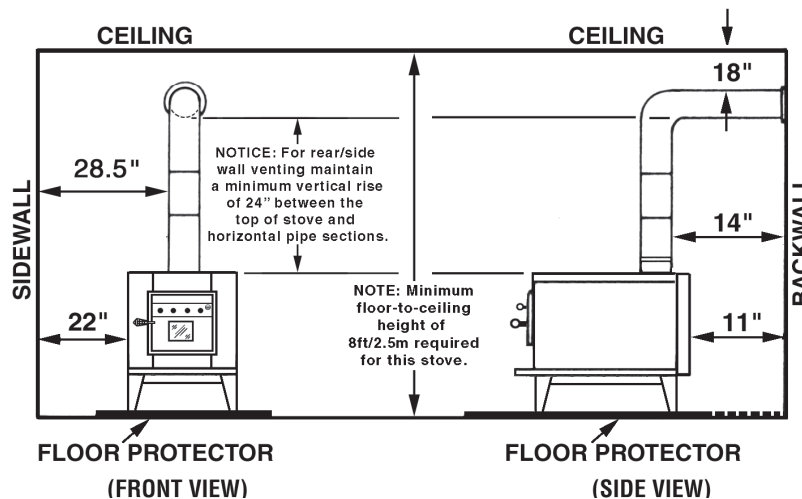

Fig. 7 – Front & Side Views: Minimum Clearance Dimensions from Combustible Surfaces
1. The tapered end of the connector stovepipe fits into the stove flue collar. Secure with three sheet metal screws. Notice: For side or rear venting, you must have a minimum 24" vertical rise from top of stove to horizontal pipe sections (see fig. 7).